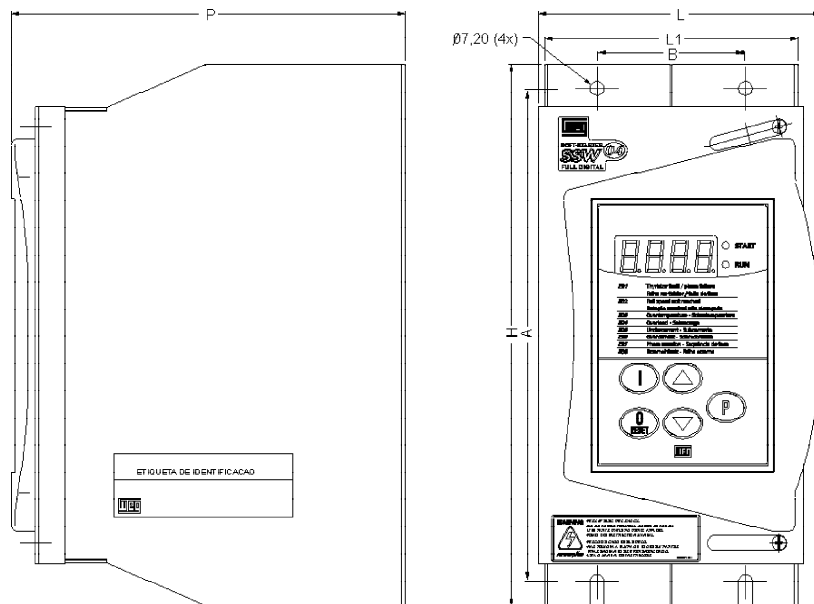

Figure 3.2 - External dimensions for the SSW-04 and its screwing drillings
- External dimensions, fastenings drillings, etc. according to Figure 3.2.